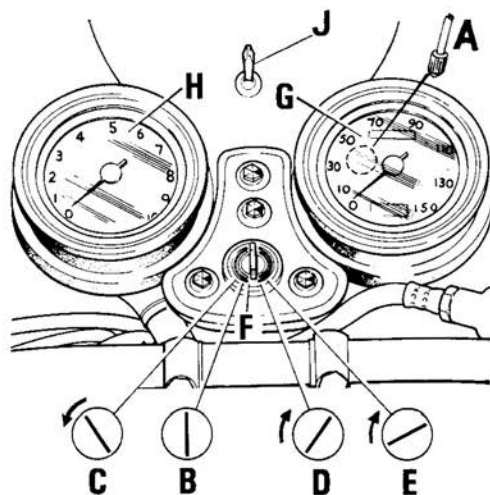

Fig. 5
In the 'OFF' position (B), fig. 5, there are neither lights nor ignition. Turn the key counter clockwise to obtain the parking light and rear light (C).
Parking light switch (J). When the switch F (fig. 5) is in position E (i.e. ignition and headlight), the headlight beam may be changed to parking light by operation of this switch.